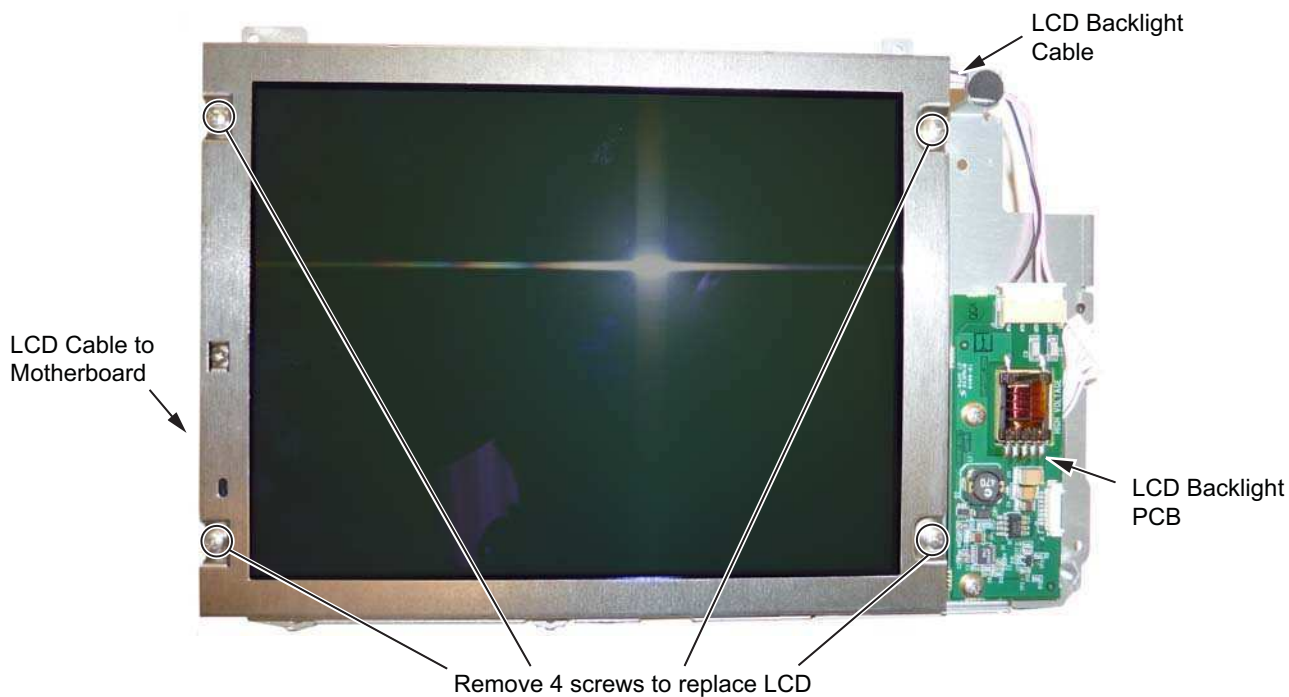

Figure 7-10. Replacing the LCD
5. Use a Phillips screw driver to remove the four screws securing the LCD to the housing (Figure 7-10).